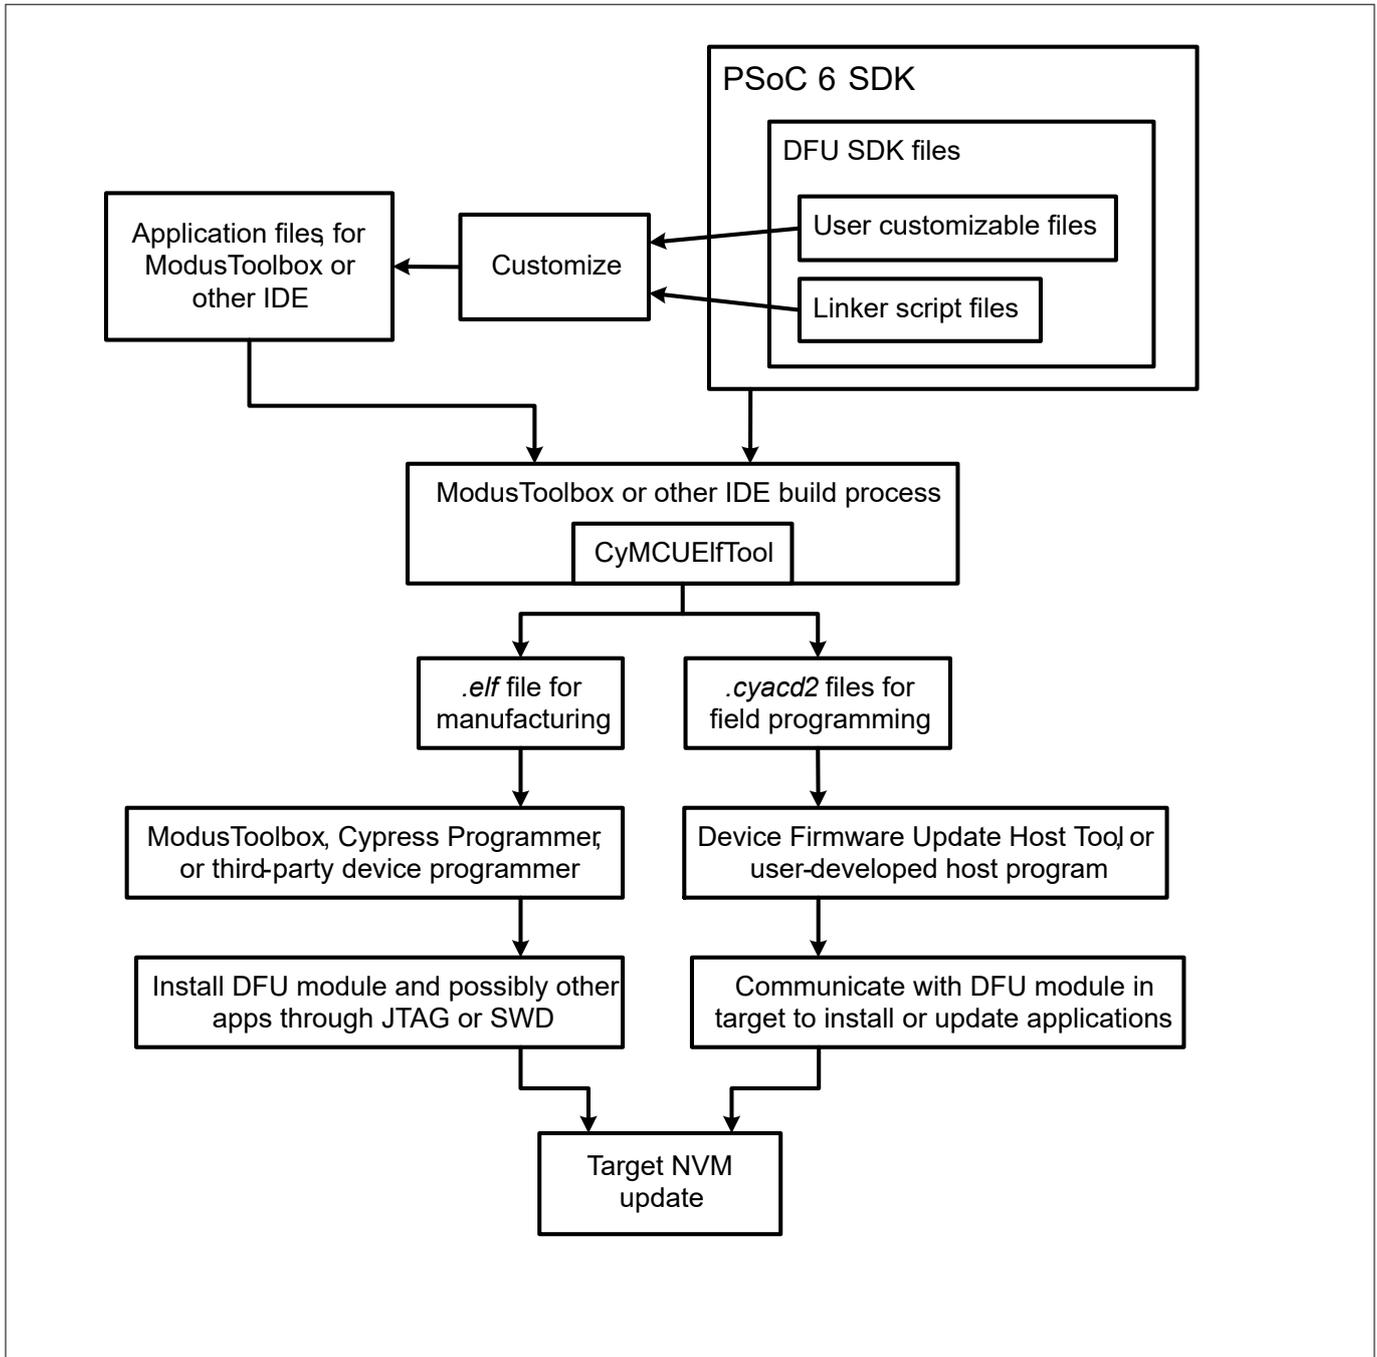
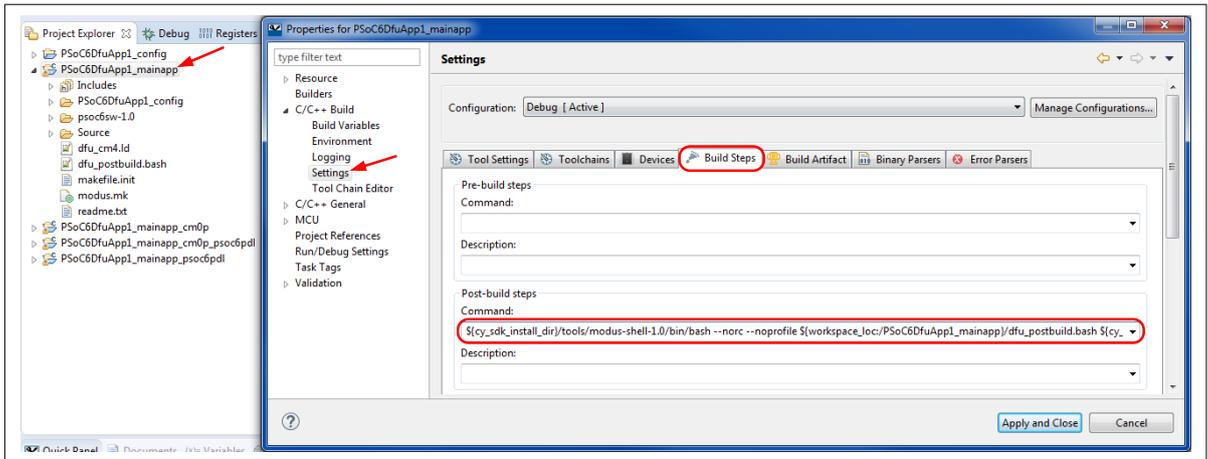

Figure 5 ModusToolbox™ application build and DFU process diagram
Figure 9 ModusToolbox™ post-build command
- CyMCUElfTool: `cymcuelftool.exe` in the folder `... \ ModusToolbox_1.0 \ tools \ cymcuelftool1.0 \ bin`. This program is called as part of building an application, as Figure 5 shows. (The diagram is similar for PSoC™ Creator and other IDEs.)
- For downloadable application projects, add a post-build command to call the CYPRESS™ utility program `cymcuelftool.exe`, as Figure 9 shows. `cymcuelftool` is included with your ModusToolbox™ installation. It generates a `*.cyacd2` file, which is downloaded by the DFU host (see Figure 5). The post-build command is done only for the CM4 binary. `cymcuelftool` combines the CM4 (`_mainapp`) and CM0+ (`mainapp_cm0p`) projects to create the output `.cyacd2` file.
The command typically invokes a bash file such as dfu_postbuild.bash in code example CE213903, PSoC™ 6 MCU Basic DFU. For convenience, copy and paste the file into your _mainapp project. Then change the _mainapp project properties to add command text similar to the following, as Figure 9 shows